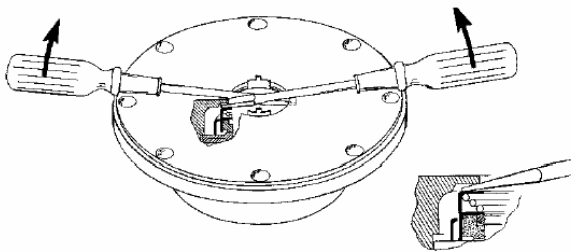

Figure 6
2. Remove the inboard bearing cover capscrews (28) and slide the inboard bearing cover (27A) and gasket (26) off the shaft. Discard the bearing cover gasket.
3. Remove the outboard bearing cover capscrews (28) and slide the outboard bearing cover (27A) and gasket (26) off the shaft. Discard the bearing cover gasket.
5. Remove the head capscrews (21) and carefully pry the head (20) away from the cylinder. Jack screw holes are provided if needed.
6. Slide the head off the shaft. The head O-ring (72), bearing (24), and mechanical seal (153) will come off with the head assembly. Remove and discard the head O-ring.
- a. Pull the bearing (24) from the housing in the head.
- b. To remove the **mechanical seal** (153), use two screw drivers to gently push the backside of the seal jacket to push the seal from the head (see Figure 6). Use care when placing the screwdrivers to prevent damage to the seal faces. Remove and discard mechanical seal O-rings.